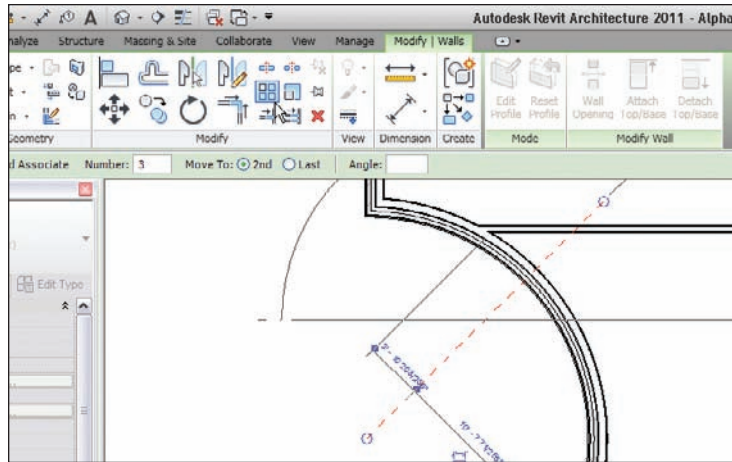

FIGURE 4.11 Select the item to be arrayed first, and then click the Array button on the Modify | Reference Planes tab.
1. Select the 45° reference plane, as shown in Figure 4.11.
2. On the Modify | Reference Planes tab, select the Array button, as shown in Figure 4.11.